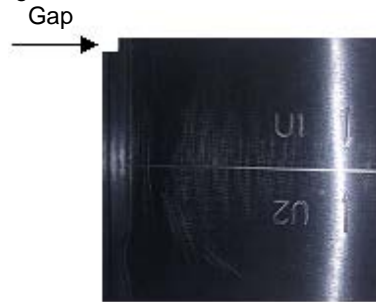

Figure 2-3 Pole Partition
- 1) The pole partition as shown in Figure 2-3.